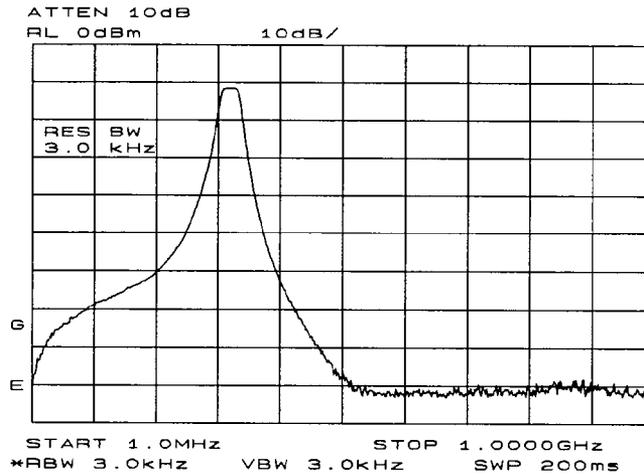

**Figure 3-18. Adjust spectrum analyzer settings according to the measurement requirement.**
- Since we are only interested in the rejection of the bandpass filter, tune the spectrum analyzer's center frequency so that the rolloff of the filter comprises the majority of the trace on the display (see Figure 3-18).